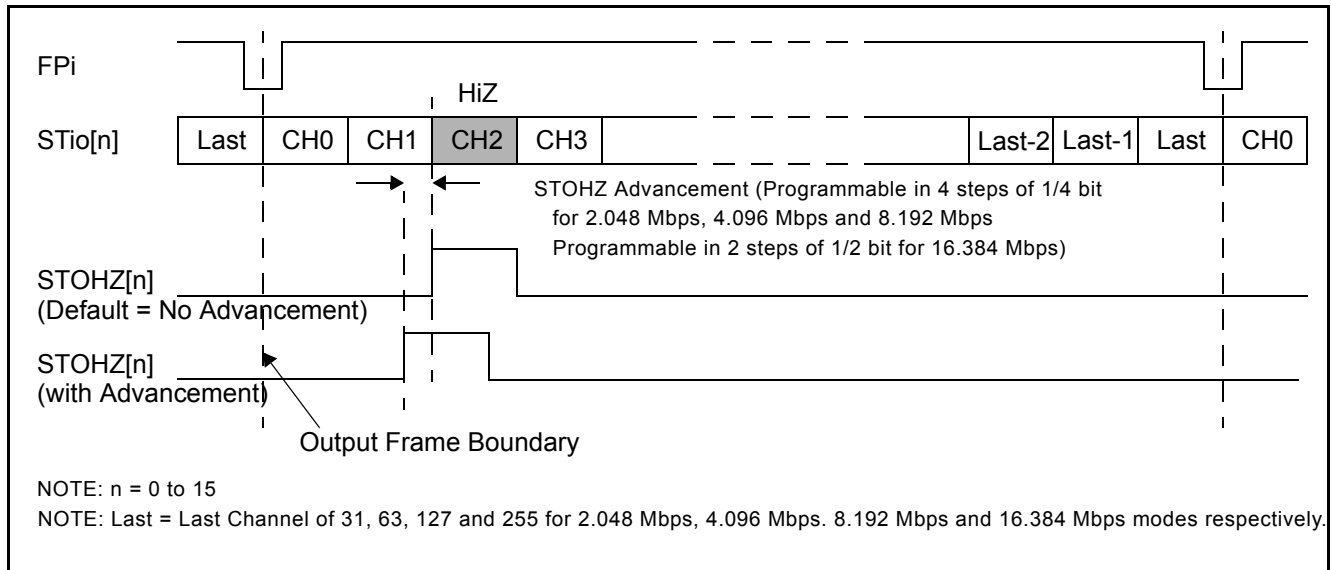

Figure 18 - Channel Switching External High Impedance Control Timing
There are 16 external high impedance control signals, STOHZ0 - 15, that are used to control the external drivers for per-channel high impedance operations. Only the first sixteen ST-BUS/GCI-Bus (STio0 - 15) outputs are provided with corresponding STOHZ signals. The STOHZ outputs deliver the appropriate number of control timeslot channels based on the output stream data rate. Each control timeslot lasts for one channel time. When the ODE pin is high and the OSB (bit 2) of the Control Register (CR) is also high, STOHZ0 - 15 are enabled. When the ODE pin, OSB (bit 2) of the Control Register (CR) or the $\overline{\text{RESET}}$ pin is low, STOHZ0 - 15 are driven high, together with all the ST-BUS/GCI-Bus outputs being tristated. Under normal operation, the corresponding STOHZ outputs of any unused ST-BUS/GCI-Bus channel (high impedance) are driven high. Refer to Figure 18 on page 34.